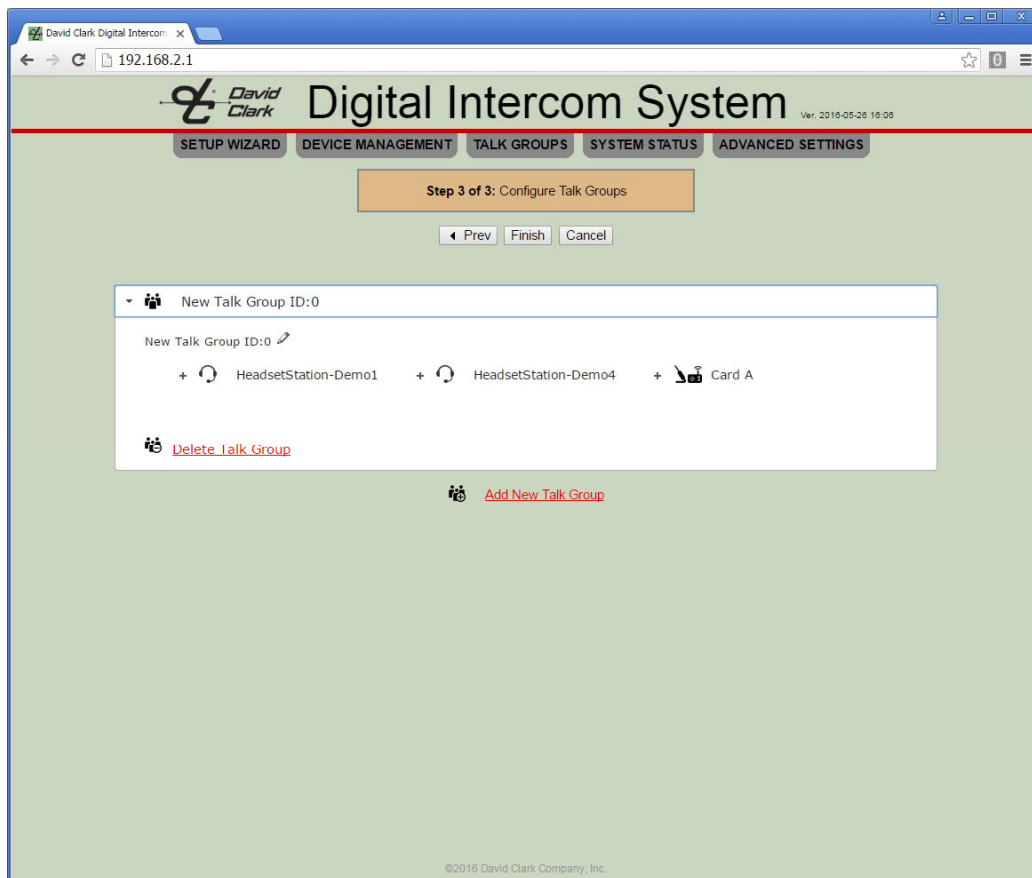

Figure 8.10
11. Click "Add New Talk Group" and click the talk group name to expand it. See **Figure 8.10**.